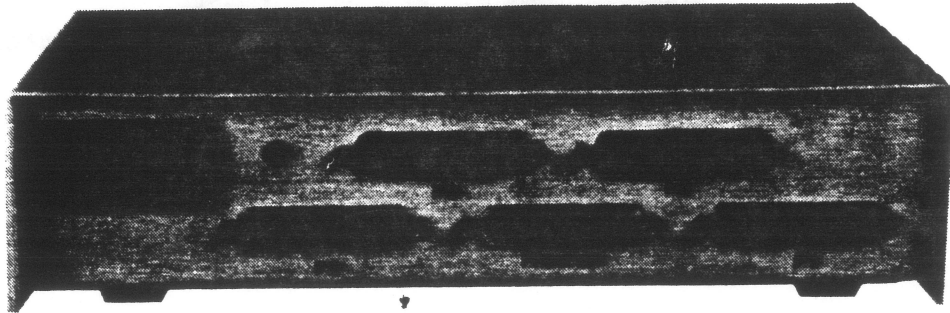

Figure 4 Rear view of CPT Printer Multiplexer
3. Connect the 25-pin male end of the Printer-to-MUX cable (931606-00X) to the port labelled "PRINTER" on the rear of the multiplexer (see Figure 4 below). Connect the other end of the cable (36-pin male) to the Centronics interface connector of the printer.